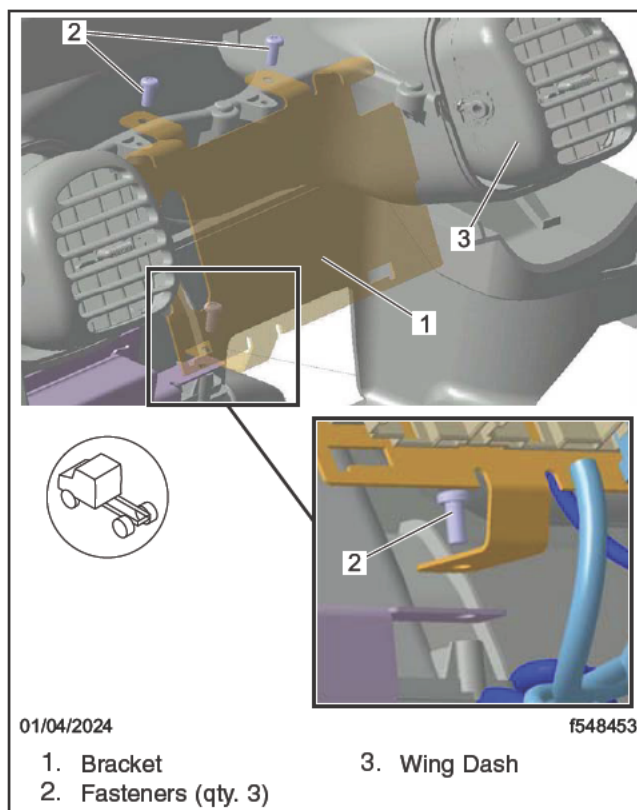

Fig. 18, Bracket
3. Make a note of how the new bracket is installed in the dash prior to attaching the VT module. See **Fig. 18**. The VT module will be fastened to the back side of the new bracket (between the bracket and the dash assembly), prior to attaching the bracket to the dash.